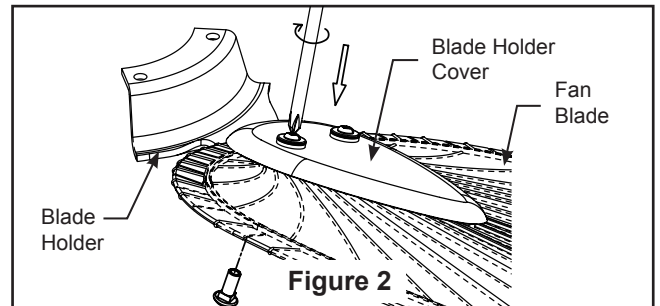

Figure 2
- ☐ 4. Tighten screws with a screwdriver, don't overtighten. (Figure 2)